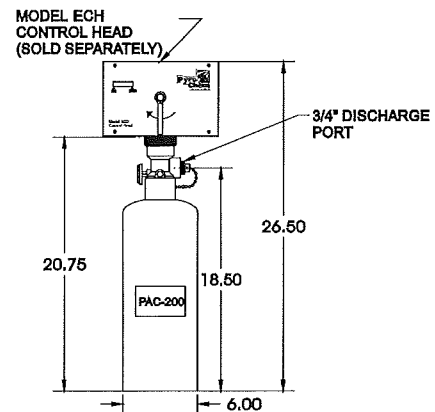

Figure 2-8. Model PAC-200 Pneumatic Actuating Cylinder.
The Model PAC-200 is a pneumatic actuating cylinder that can actuate a maximum of twenty (20) agent cylinders simultaneously. The Model PAC-200 includes a DOT 4B350 cylinder pressurized with dry nitrogen to 350 PSIG @ 70° F., a brass valve with pressure gauge, and a wall mounting bracket. A Model MCH or ECH control head must be purchased separately and connected to the PAC-200 to open the valve. See **Figure 2-8**.